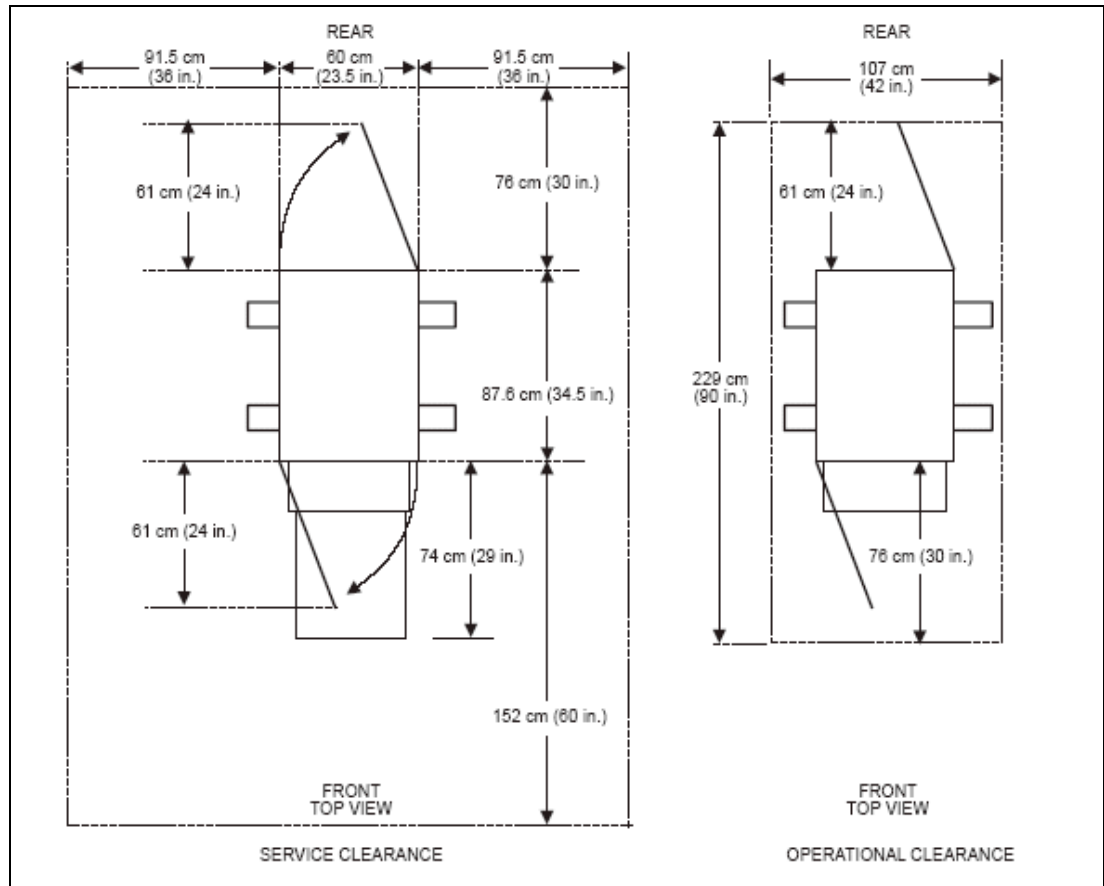

Figure 2-4 Example of service clearances for 9306-900 rack
You need at least 152 cm (60 in.) of space between 42-U rack suites. This space is necessary for opening the front and rear doors and for installing and servicing the rack. It also allows air circulation for cooling the equipment in the rack. All vertical rack measurements are given in rack units (U). One U is equal to 4.45 cm (1.75 in.). The U levels are marked on labels on one front mounting rail and one rear mounting rail. Figure 2-4 on page 20 shows an example of the required service clearances for a 9306-900 42U rack.